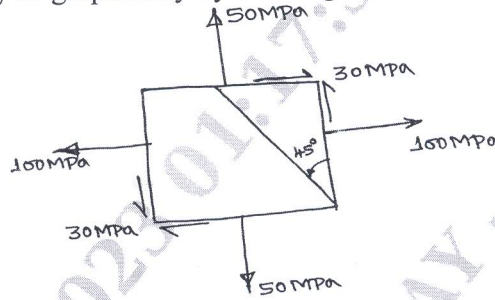

Fig.Q.4
- 4 The state of stress in 2 dimensionally stressed body is as shown in Fig.Q.4. Determine the principal stresses, principal planes, maximum shear stress and its planes, average normal stress.